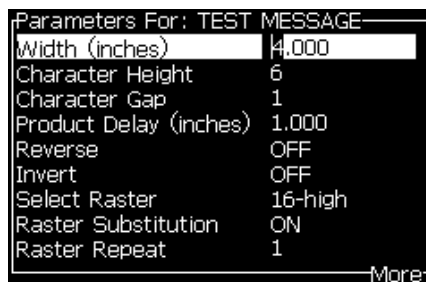

Figure 5-11: Message Parameters Dialog Box
- Under the *Messages* menu, select the Message Parameters (Figure 5-11 on page 5-30) to edit the values.